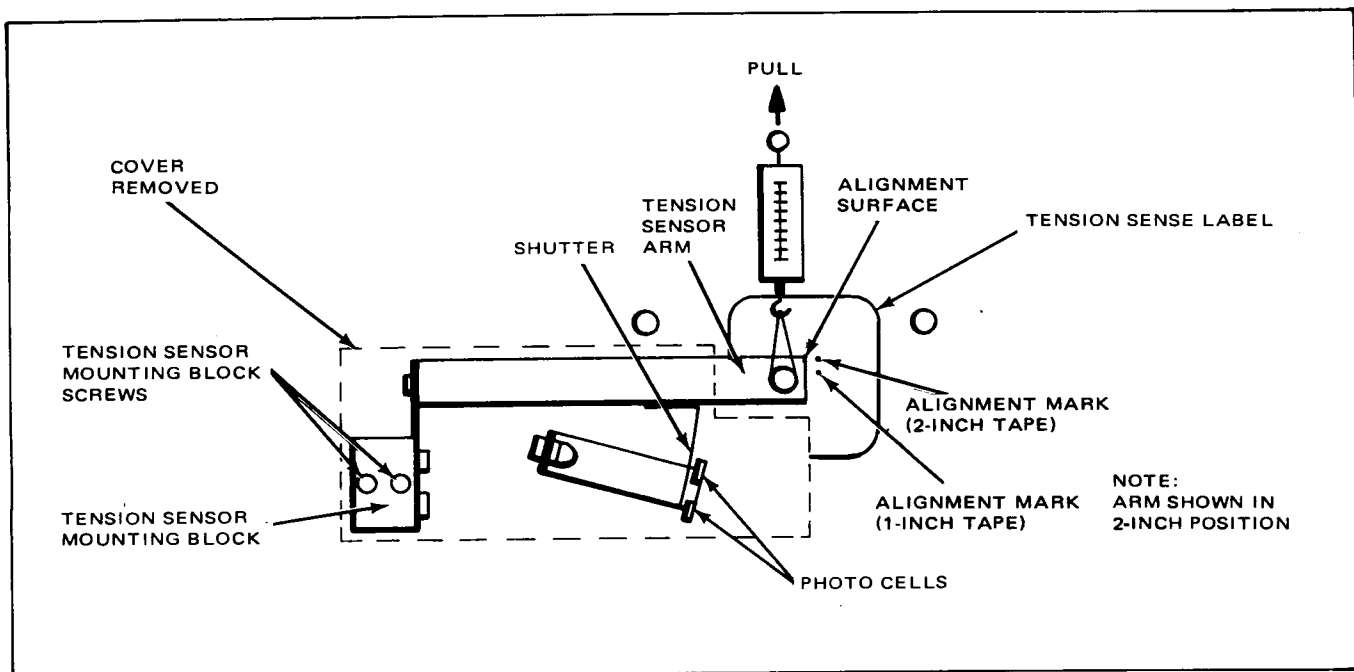

Figure B-4. Tension Sensor Arm Calibration
2. Using a 30-ounce spring gauge, pull the tension sensor arm as shown in Figure B-4. The alignment surface of the tension sensor arm must align with the alignment marks on the tension sense label when the spring gauge indicates 4 ounces (one-inch tape) or 8 ounces (two-inch tape).
1. Remove the screw holding the tension sensor cover, remove the cover, and loosen the two screws that retain the tension sensor mounting block (see Figure B-4).
2. Reposition the mounting block such that the shutter opening is centered between the two photo cells with a tension of 8 ounces applied as shown in Figure B-4.